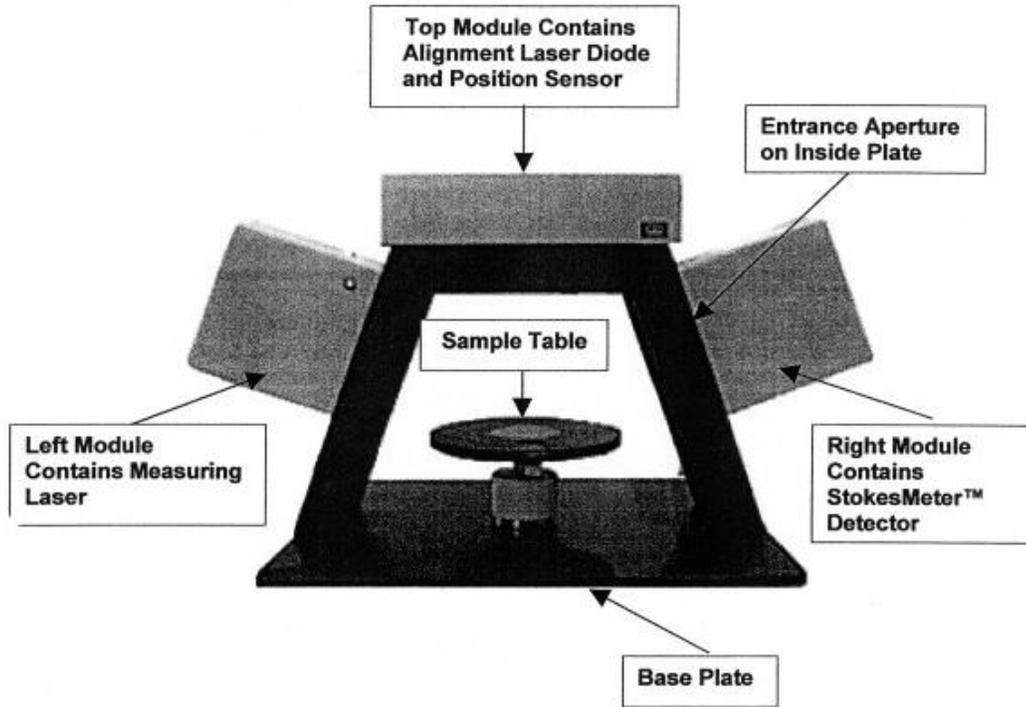
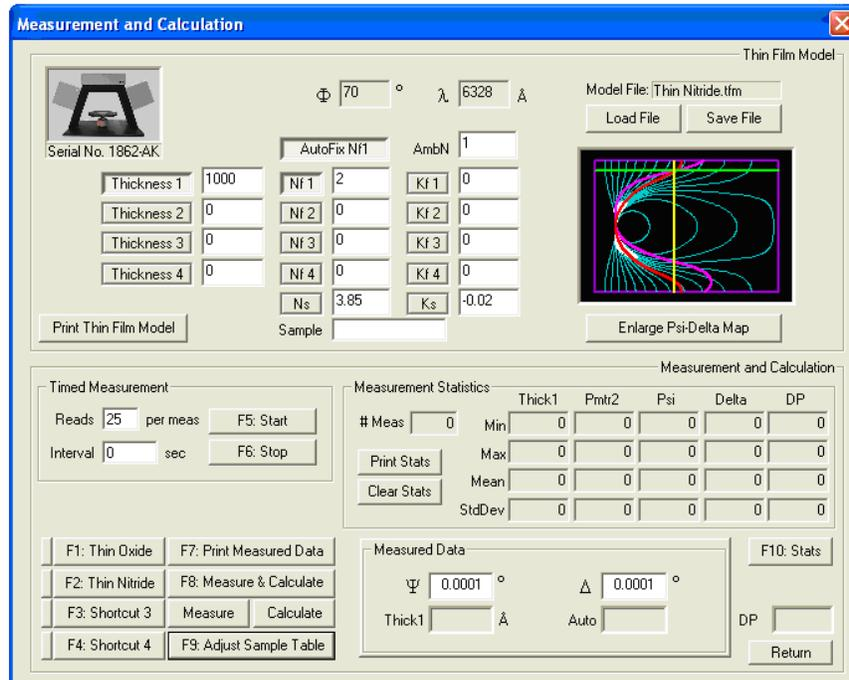

Figure 11.1 - LSE Stokes Ellipsometer Physical Layout
Figure 11.2 - GEMP Measurement & Calculation Window
The LSE Stokes Ellipsometer is comprised of the ellipsometer itself and table top PC running GEMP software, running under WINDOWS OS, for film thickness and refractive index calculation. See Figure 11.1 for the physical layout of the ellipsometer and Figure 11.2 for the display screen of the GEMP software. There are two lasers used: One from top module for sample alignment. The other from the left module for measurement. Both of them can be clearly seen at the center of the sample table.
- 9.2.4 Log onto the PC. Double click the GEMP icon to start the software. Click the **ellipsometer** icon on the top of the screen, or use the drop down menu under Ellipsometer/Measurement and Calculation to open the Measurement and Calculation Window Figure 11.2.